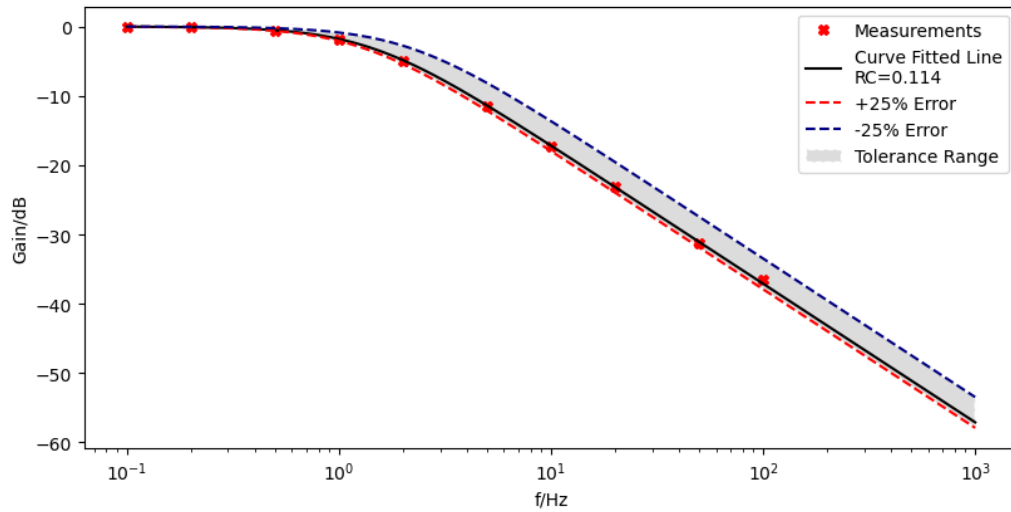
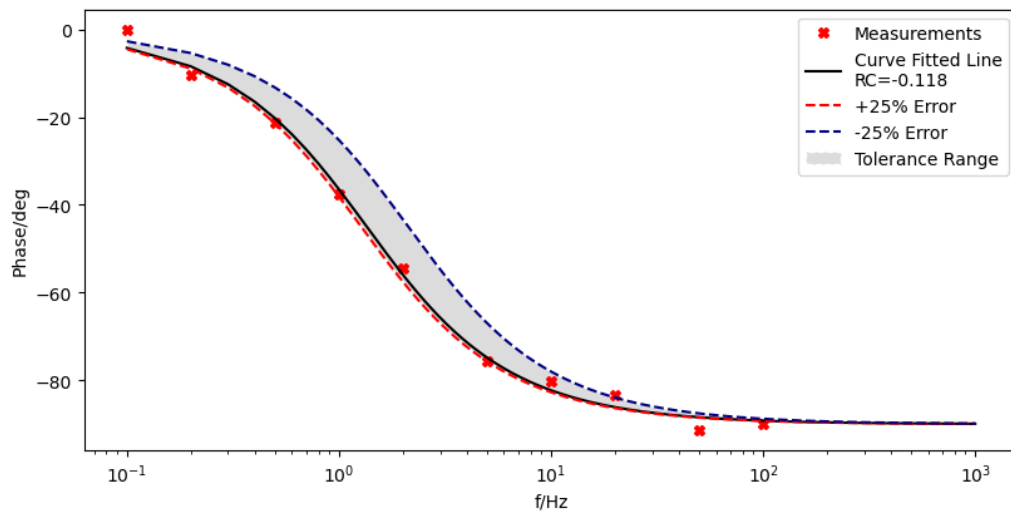

Figure 8 - Gain vs frequency
Figure 9- Phase vs frequency
Just like in the time domain analysis, SciPy was used to do a curve fit with the data and use the previously calculated tolerance in RC to plot two extra lines representing a  $\pm$  error in RC, as shown in *Figure 8* and *Figure 9*.
*Figure 8* shows the characteristic behaviour of a low pass filter, where before the cut-off frequency the gain is unity, then past it, the signal gets attenuated with a roll-off of 20dB/decade.
*Figure 8* and *Figure 9* shows that the measured values were very close to the lower boundary for the error in  $RC$ .